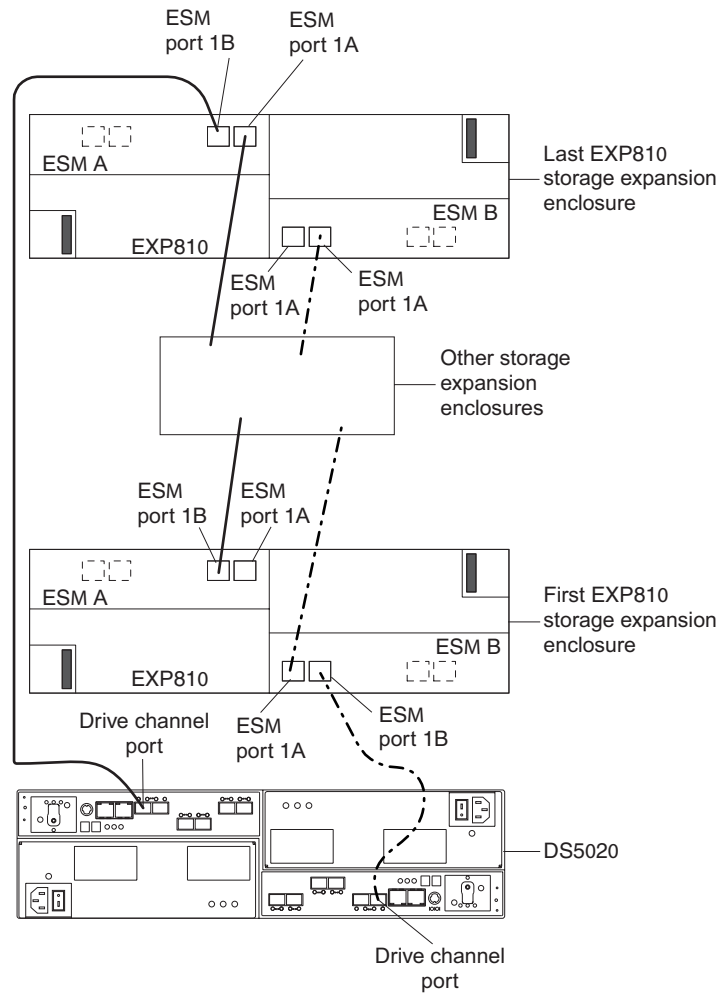

Figure 45. DS5020 drive ports connected to EXP810 ESM ports labeled 1B
10. The controller drive ports of the DS5020 storage subsystem controllers must always be connected to ports labeled 1B in both the right and left ESMs of the EXP810s in the redundant drive channel/loop pair that is connected to the DS5020 storage subsystem. Figure 45 on page 71 shows the location of the ports.